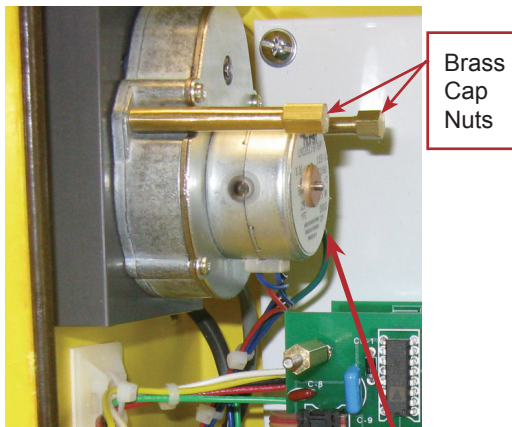

Figure 46
6. Place the new pump motor onto the threaded studs in the pump motor mounting block. Place the ring terminal of the green ground wire onto one of the studs, generally the right hand stud toward the back of the analyzer. Fasten the motor and ground wire by hand with the (2) extended brass nuts (**Figure 46**); it should be snug, but do not completely tighten yet.